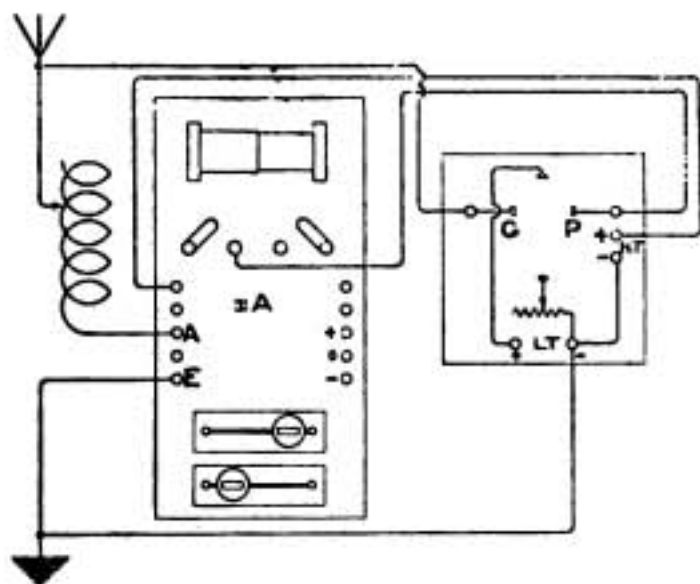

Fig. 4
(1) and (2) For a valve as note magnifier connect the grid and negative side of filament to the 31a telephone terminals and the telephones and H.T. battery to plate of the valve. An external panel may be used for a H.F. magnification, and should be arranged as shown in the diagram (Fig. 4). It